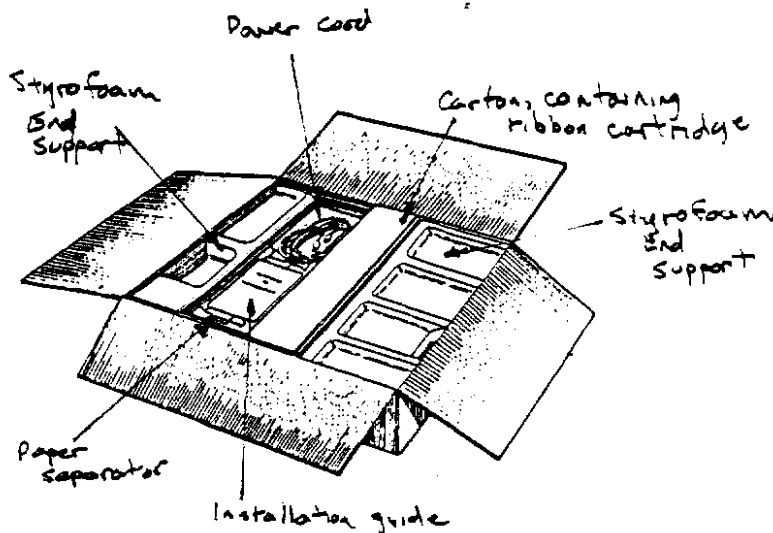

Figure 8-1. Repacking.
8. Place the cord, the paper tray into the cardboard tray, and put the tray between the styrofoam supports as shown in figure 8-1. Close the box and store, or for shipping retape the box securely and ship.